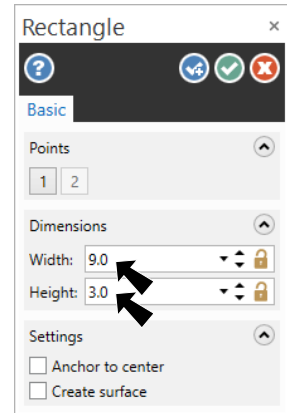

Fig. 1
Step 3. In the Rectangle function panel: under Dimensions, **Fig. 1**